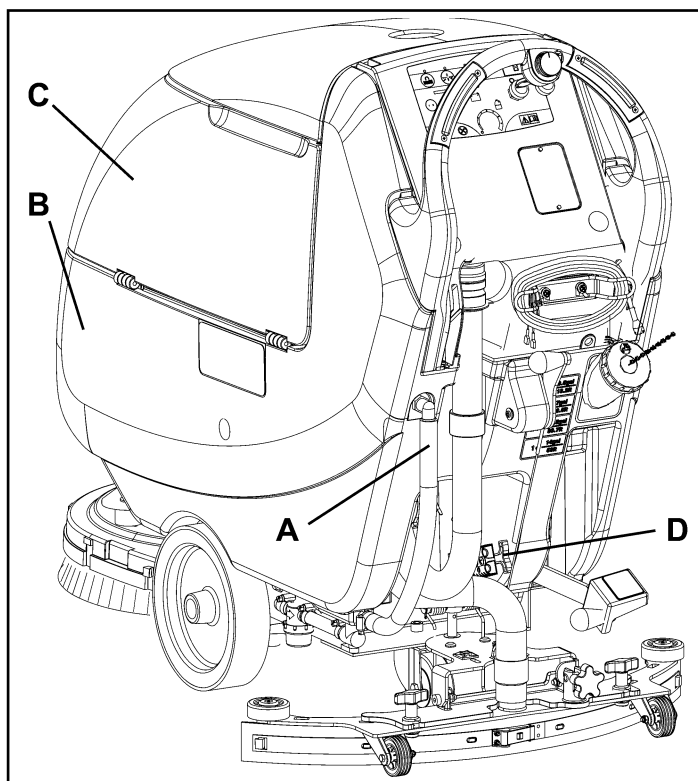
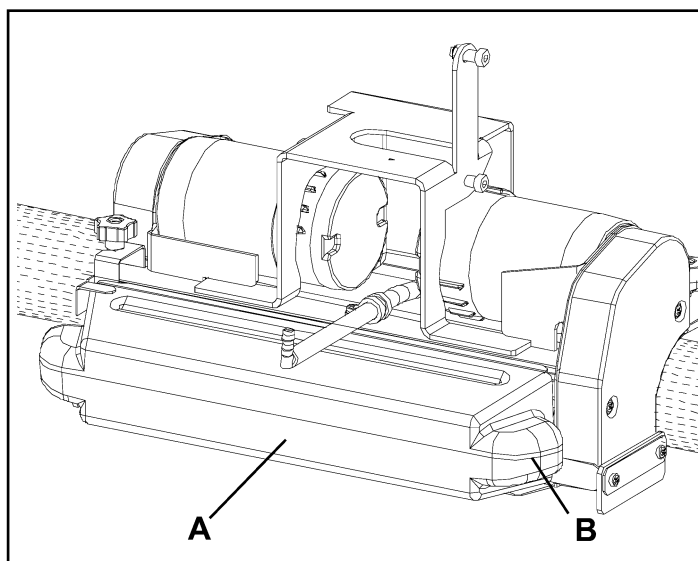

Figure 23
Figure 24
7. Empty the solution tank with the hose (A, Fig. 23). After working, rinse the tank with clean water.
9. Lower the cylindrical brush-holder deck and remove the debris container (A, Fig. 24) by pulling it on one side with the handle (B).
10. Empty and wash the debris container (A), and then install it by engaging it on the fasteners.
2. Empty the tanks (B and C, Fig. 23) and the debris container (A, Fig. 24) as shown in the previous paragraph.
2. Disconnect the battery connector (D, Fig. 23).